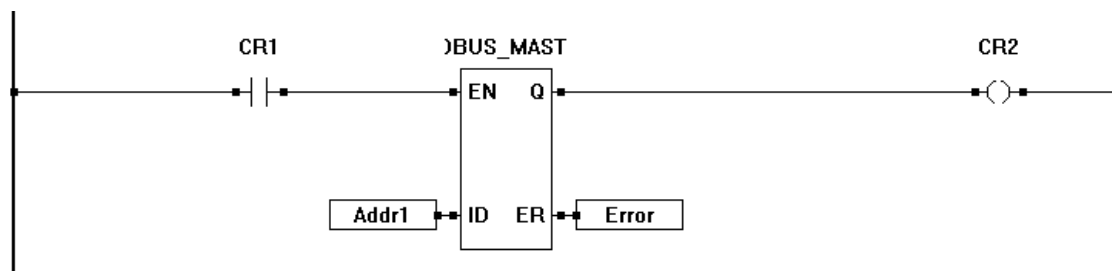

Figure 13-19
When configured as a Modbus Master, the target Slave ID (slave to communicate to) is set in the ladder diagram project using a variable and the **MODBUS_MASTER** or **MODBUS_MASTER2** function block. The variable connected to the ID pin of the MODBUS_MASTER function block will hold the IP address of the slave device. The slave ID is to be entered in an IP address format (eg: 192.168.1.55). Refer to Figures 13-19 and 13-20. Refer to Appendix A - Function Reference for more details on the **MODBUS_MASTER** and **MODBUS_MASTER2** function blocks.
When configured as a Modbus Master, the target Slave ID (slave to communicate to) is set in the ladder diagram project using a variable and the **MODBUS_MASTER** or **MODBUS_MASTER2** function blocks. The variable connected to the ID pin of the MODBUS_MASTER(2) function block will hold the IP address of the slave device. In the Default Value field, the slave ID is to be entered in an IP address format (eg: 192.168.1.55). Refer to Figures 13-19 and 13-20.